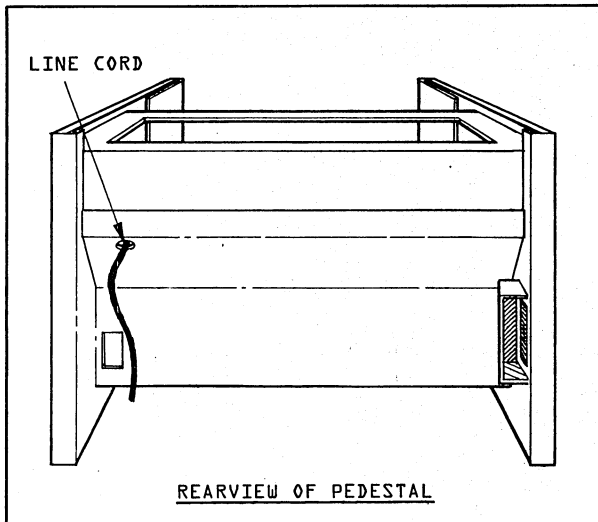

FIGURE 2-3. PEDESTAL PORT LOCATOR
4. Insert the cord through the rear access hole and insert it through the strain relief clamp (see Figure 2-3).